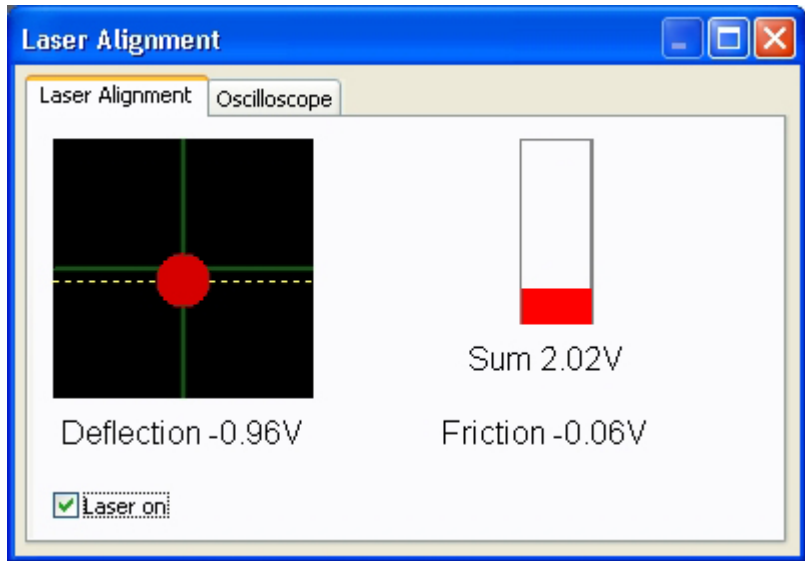

Figure 65 Align spot to yellow, dotted line for Contact Mode
- 4 For Contact Mode, the dotted yellow line (Figure 65) shows the recommended vertical alignment of the laser prior to approaching the sample.